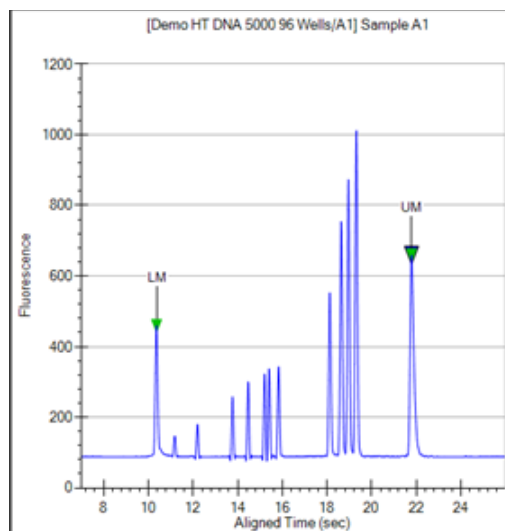

Figure 5. Markers - DNA
- 6 Two DNA fragments, the **Lower Marker** and **Upper Marker**, are run with each of the samples, bracketing the DNA sizing range. The Lower Marker and Upper Marker are internal standards used to align the ladder data with data from the sample wells. Figure 5 shows an example of assigned marker peaks in a sample well.